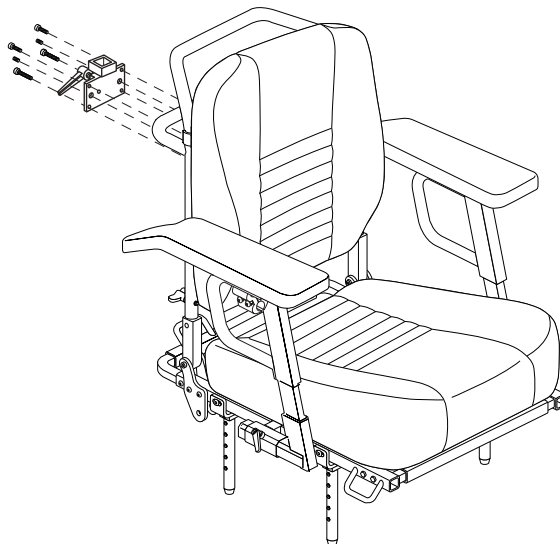

Figure 13. Mounting the Headrest Bracket
- 1/4-20 x 3/4-in. button head screw (2)
- 1/4-20 x 1/2-in. button head screw (2)
- 1/4-20 x 1/4-in. setscrew (2)
1. Mount the headrest bracket to the adjustment bar on the seatback. The curved plate snaps onto the bar from the inside with the smaller side of the plate on top. See figure 13.
5. Align the headrest adjustment lever bracket to the headrest bracket. Secure the adjustment lever bracket to the headrest bracket by inserting the 1/4-20 x 3/4-in. button head screws through the adjustment lever bracket and into the bottom row of holes in the headrest bracket. See figure 13.